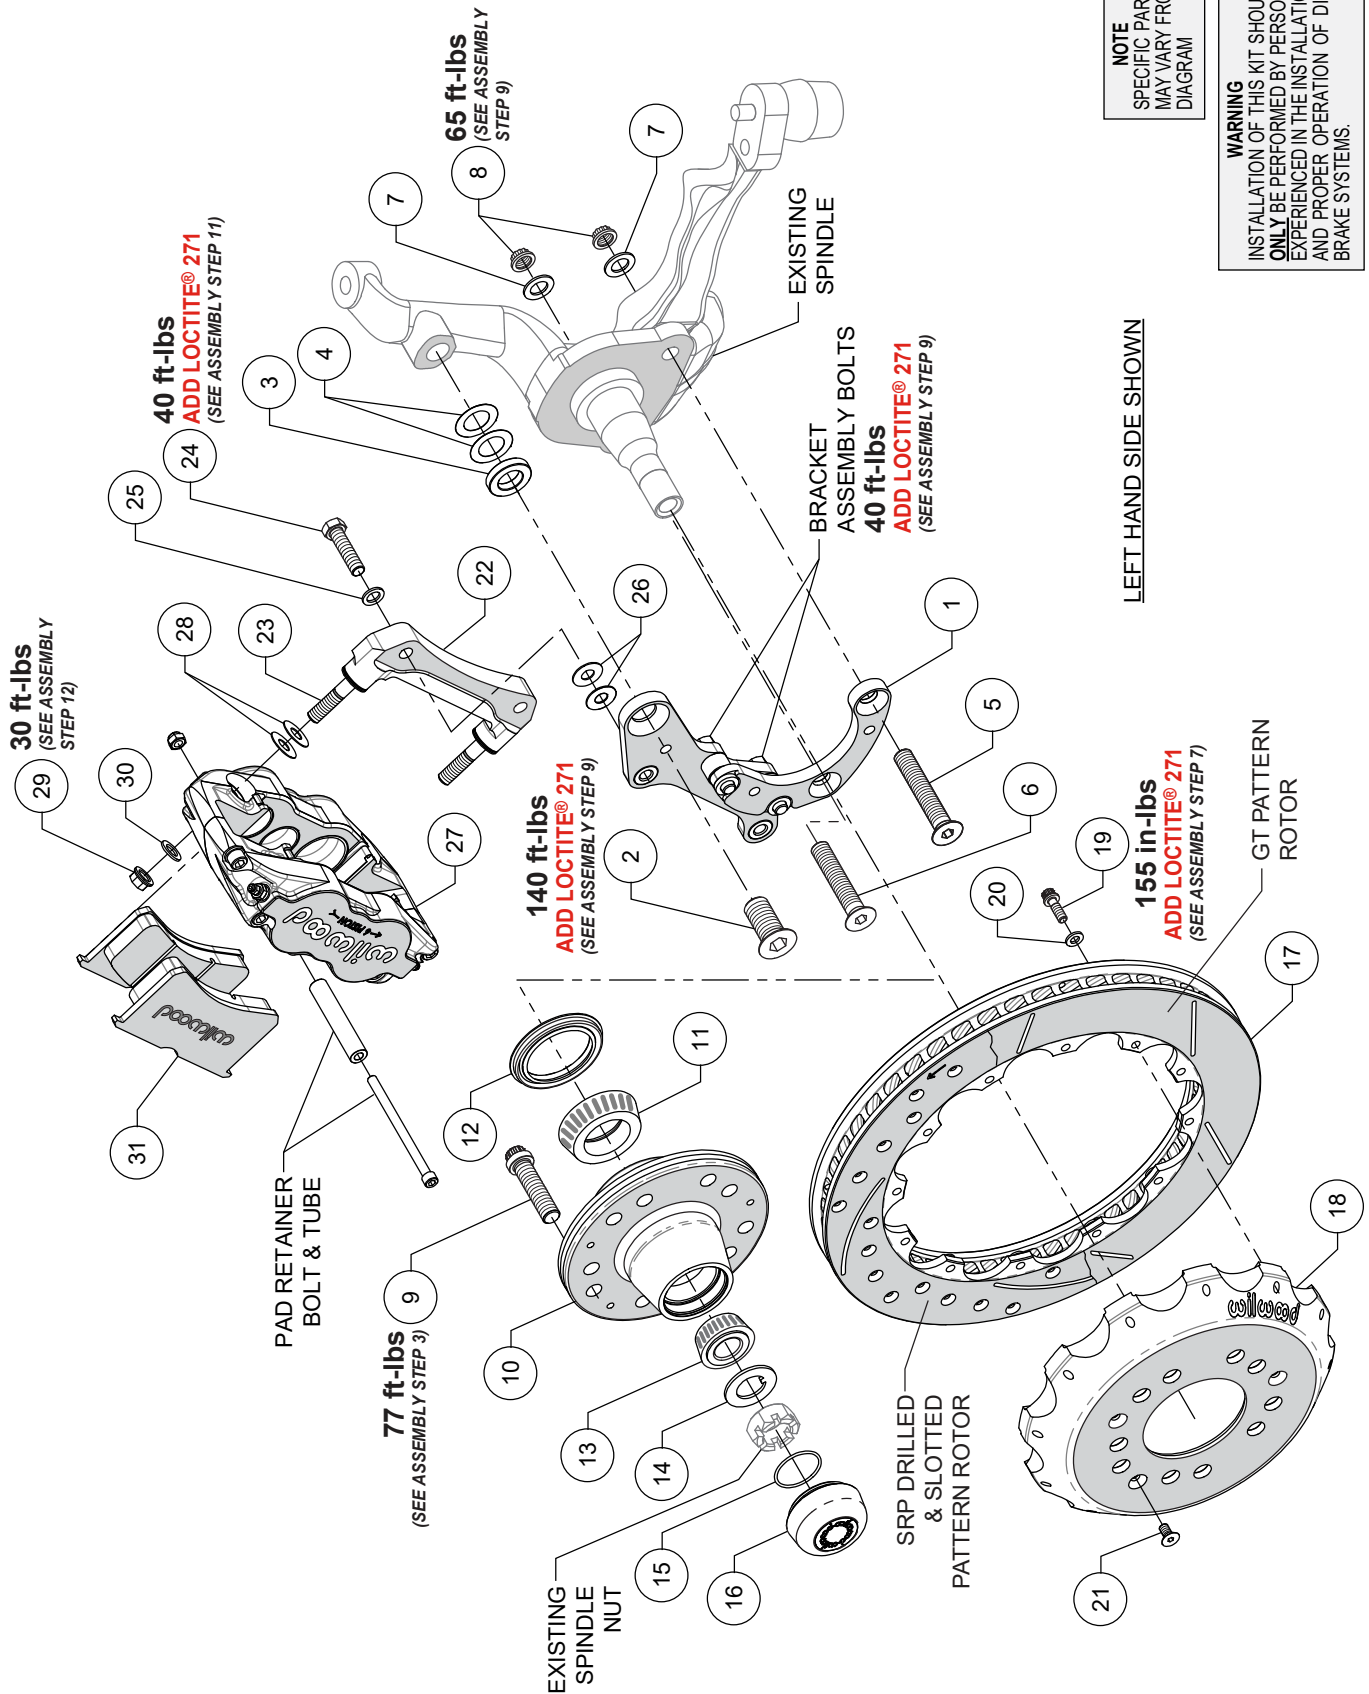
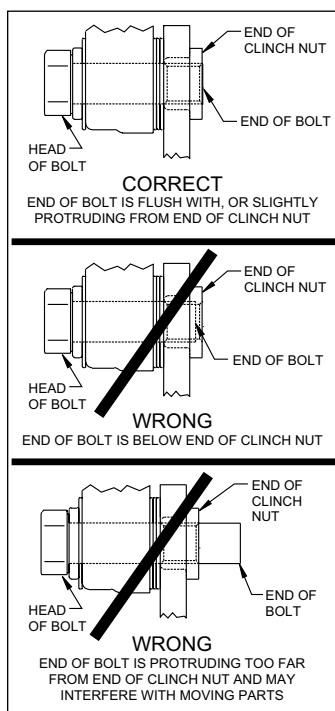

Figure 1. Typical Installation Configuration
Figure 4. Clinch Nut Engagement Diagram
NOTE: Numbers in parenthesis refer to the parts list and Figure 1 on the preceding pages.
CAUTION: All mounting bolts must fully engage clinch nuts. Be sure to check that all bolts are either flush or protruding through flanged side of clinch nut after shimming, Figure 4.
STEP 1 Bracket assembly (1) should initially be installed with clean, dry threads on the mounting bolts. The bracket has been assembled at the factory for alignment purposes. **Loosen the two bolts that secure the brackets together so that the bolts are hand tight only.** This will enable the bracket assembly to be adjusted to accommodate various spindle tolerances during assembly. Orient the bracket (1) as shown in Figure 1, and Photo 1. Install using bolt (2) on the upper hole of bracket while placing .250" thick spacer (3) and two .010" shims (4) between the spacer and spindle as shown in Figure 1 and Photo 2.
STEP 2 Install bolts (5 and 6), washers (7) and nuts (8) in the lower holes, Figure 1. Note the location of the longer bolt (5). Temporarily tighten the mounting bolts (5), followed by the two bracket-to-bracket bolts. **NOTE:** *The bracket must fit squarely against the mounting points on the spindle.* Inspect for interference from casting irregularities, machining ridges, burrs, etc. Later, after the bracket alignment has been checked, the nuts will be torqued to specification.
STEP 3 Install wheel studs (9) from the backside of the hub (10), Photo 3. Torque to value shown in Figure 1. **NOTE:** *There are two five lug patterns in the hub (5 x 4.50" and 5 x 4.75").* Ensure the correct hub stud pattern is being used to fit the wheel application.
STEP 4 Pack the large inner bearing cone (11) with high-temp disc brake bearing grease (available from your local auto parts store) and install into the backside of the hub (10), Figure 1 and Photo 4. Install the grease seal (12) by pressing into the backside of the hub (10), Photo 4.
STEP 5 Pack the small outer bearing cone (13) with high temperature disc brake bearing grease and install into the front side of the hub (10). Slide the hub assembly onto the spindle. Secure using spindle washer (14) and existing OEM spindle nut, Figure 1 and Photo 5. Adjust bearings per OEM specifications and install new cotter pin (not supplied).
STEP 6 Screw dust cap (16) into hub (10). Friction created by the o-ring (15) on the dust cap keeps it from unscrewing. **NOTE:** *The O.D. of the existing OEM spindle washer may be larger than the I.D. of the dust cap not allowing it to seat against the hub face. Therefore, use the spindle washer (14) supplied with the kit instead of the OEM washer.*
STEP 7 Orient the rotor (17) and the hat (18) as shown in Figure 1 and Photo 6. Attach rotor to hat using bolts (19) and washers (20). Apply red *Loctite®* 271 to the bolt threads and torque to value shown in Figure 1 using a criss-cross pattern. For an added measure of security, the bolts may be safety wired using
STEP 8 Slide the rotor/hat assembly (17/18) onto the hub (10). **NOTE:** The hat must fit flush against the hub face or excessive rotor run out may result. Install rotor locator screws (21) to keep the rotor/hat assembly in place while continuing with the installation.
STEP 9 Check that the bracket assembly (1) is aligned parallel to the rotor, Photo 7. If not, adjust by adding or subtracting shims (4) on the upper bolt (2) between bracket and spindle, Figure 1. Once the bracket alignment is correct, remove the upper bolt (2), apply red *Loctite*® 271 to the threads and torque to value shown in Figure 1. Torque lower lock nuts (8) to value shown in Figure 1. One at a time, remove the bolts that secure the two brackets of the bracket assembly (1), apply red *Loctite*® 271 to the threads and torque to value shown in Figure 1.
STEP 10 **NOTE:** Please reference the caution statement at the beginning of the assembly instructions. The radial mount caliper bracket (22) should initially be installed with clean, dry threads on the mounting bolts. Orient the bracket, as shown in Figure 1 and Photo 9, and install using bolts (24) and washers (25). Initially place two .035" thick shims (26) on each bolt between the radial mount caliper bracket (22) and bracket assembly (1), Photo 8. Temporarily tighten the mounting bolts. Later, after the caliper alignment has been checked, the mount bolts will be secured using red *Loctite*® 271.
STEP 11 **NOTE:** This kit contains distinct right and left hand calipers that must be mounted in a specific direction, as described below. Initially place two .035" thick shims (28) on each stud (23) between the caliper and the bracket, as shown in Figure 1 and Photo 10. Mount the caliper (27) onto the bracket (22) using lock nuts (29) and washers (30), Figure 1. Temporarily tighten the lock nuts. Ensure that the caliper is mounted so the largest pistons are at the rotor exit end of the caliper, in relation to the forward rotation of the rotor. View the rotor through the top opening of the caliper. The rotor should be centered in the caliper, Photo 11. If not, adjust by adding or subtracting shims (26) on bolts (24) between the radial mount caliper bracket (22) and the bracket assembly (1). Always use the same amount of shims on each of the two mounting bolts. **NOTE:** The end of each bolt (24) must be flush with or slightly protruding from the head of the clinch nut of bracket assembly as shown in Figure 4. If necessary, place spare shims between washer (25) and radial mount caliper bracket (22) to achieve the proper clinch nut engagement. Once the caliper alignment is correct, remove the bracket mounting bolts (24) one at a time, apply red *Loctite*® 271 to the threads, and torque to value shown in Figure 1.
STEP 12 Remove the caliper pad retainer bolt, tube, and nut from the caliper. Insert the brake pads (31) into the caliper, with the friction material facing the rotor, as shown in Figure 1. Check that the top of the brake pad is flush with the outside
diameter of the rotor, Photo 12. If not, adjust by adding or subtracting shims (28) between the caliper and the bracket. After the caliper pad height is set, reinstall the pad retainer bolt, tube and nut, Photo 13. The bolt should be snug without play in the tube. Be cautious not to over tighten. Torque the caliper lock nuts (29) to value shown in Figure 1.